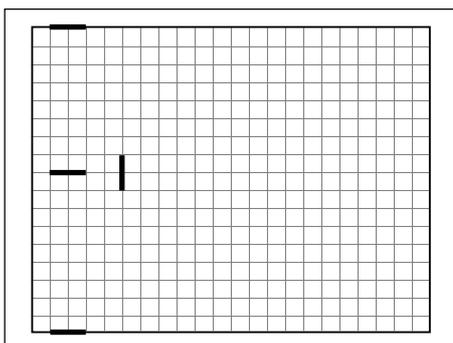

Fig. 1
- 2) Write test patterns on the sheet surface. (See Figures 1, 2, and 3.)
Write adjustment patterns on the sheet surface using a black marker as shown in Figure 1.